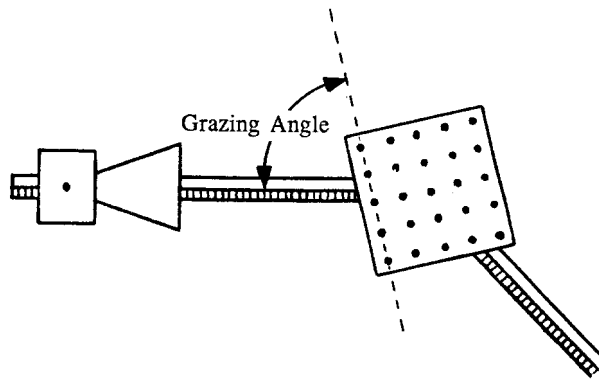

Figure 18: Grazing Angle
3. Rotate the crystal (with the rotating table) one degree clockwise and the rotatable Goniometer arm two degrees clockwise. Record the grazing angle of the incident beam and the meter reading. (The grazing angle is the complement of the angle of incidence, and is measured with respect to the angle under investigation, NOT the face of the cube (see figure 18).)